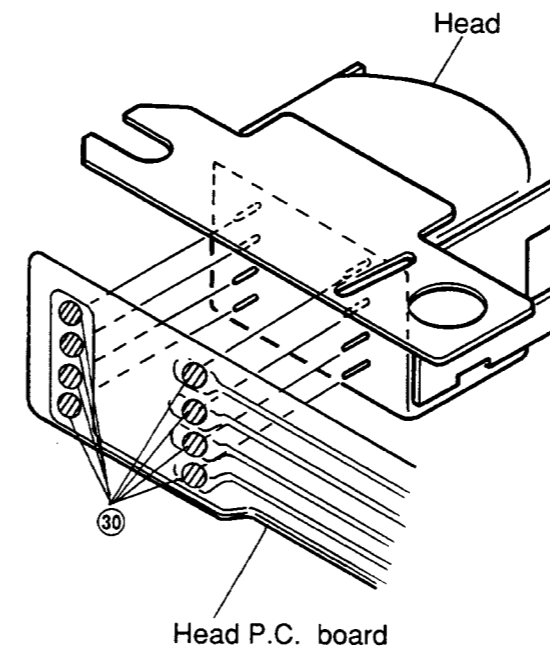

Figure 22
- (2) Remove solder ㉔ and remove the head from the head P.C. board as shown in Figure 22.
- (3) After replacement, mount the new head following the removal steps in the reverse order.